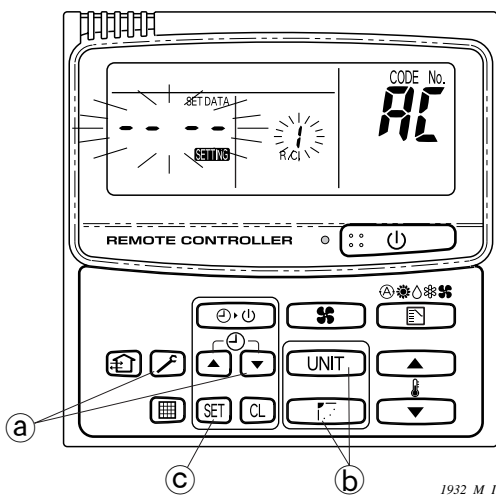

Fig. IV-8
**(F) Confirm and change the indoor unit address (Ref. Fig. IV-8, IV-9)**